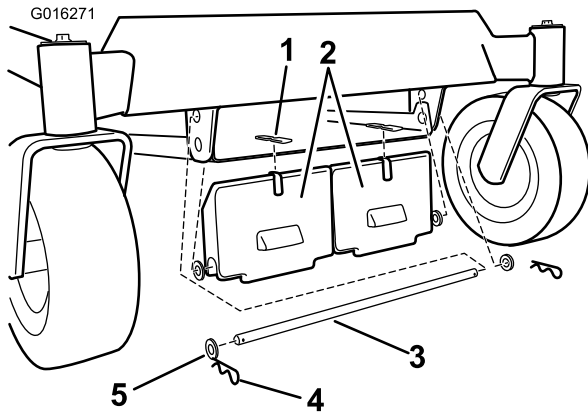

Figure 24
2. Install the weight to the front of the machine frame. Secure the weight with a rod, four washers, and two hairpins as shown in Figure 24.